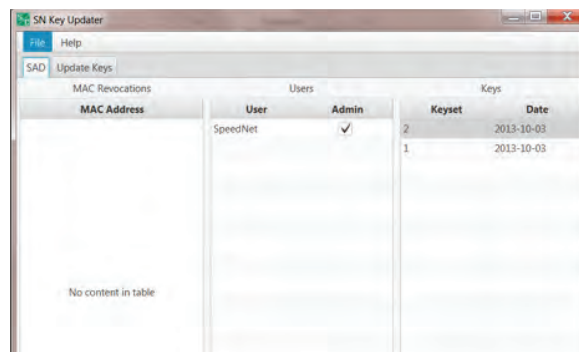

Figure 53. Update Keys dialog box.
STEP 33. Select the Keyset and click on the **Update Keys** tab. See Figure 53.